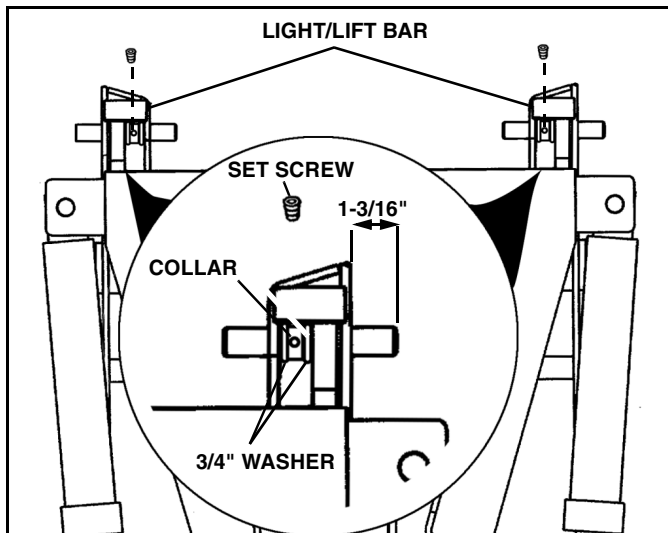

Figure 1-2
5. Place light/lift bar over A-frame lugs. (See Figure 1-2)
6. Insert straight pins from the parts bag thru light/lift bar and A-frame lug. Place a collar, with a washer on either side, between A-frame lug and inside of light/lift bar plate. (See Figure 1-2)
7. Adjust pin so that approximately 1-3/16" of the pin extends beyond either side of the light/lift bar and tighten collar. (See Figure 1-2)